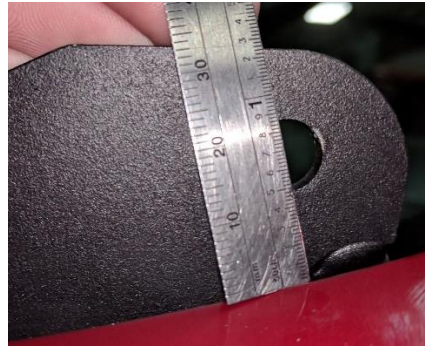

Figure 9
8. Using a ruler, set the height of the upper hole  $\frac{1}{2}$ " above the closest portion of the fender profile. (**Figure 9**)